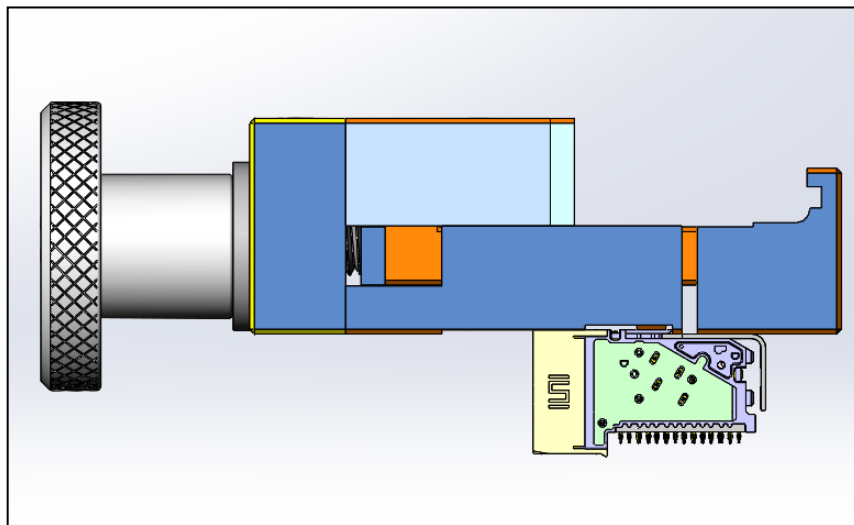

FIGURE 4
5. While applying enough downward pressure to ensure that the stiffener tool pins stay engaged into the metal stiffener holes, begin turning the knob counterclockwise until a force is felt, and the metal stiffener should start to separate from the connector modules as shown in **Figure 4**. Continue to turn knob for one full rotation and the metal stiffener should begin to further disengage from the connector plastic. If the connector is under 2.0" in length, continue to turn the knob counterclockwise (~2 full turns total) until the stiffener has completely separated from the connector plastic and continue to Step 7. If the connector is longer than 2.0" in length continue to Step 6.